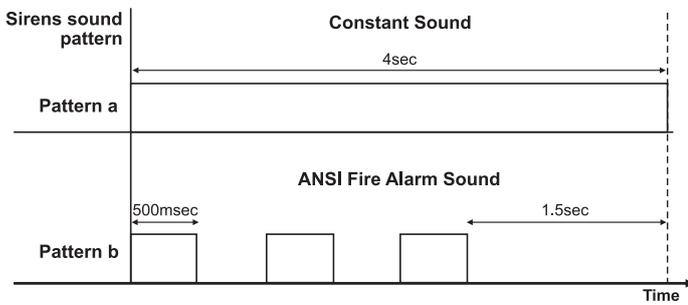

Figure 20. Sirens alarm patterns
- The General Alarm Relay Output 1 is activated and produces a constant or interrupted pattern (depends on ALM.3.6.8: **|Siren 1 pattern|**). See Figure 20 for a visual representation of the two patterns. See section 7.3.4 for information selecting the desired sound pattern.